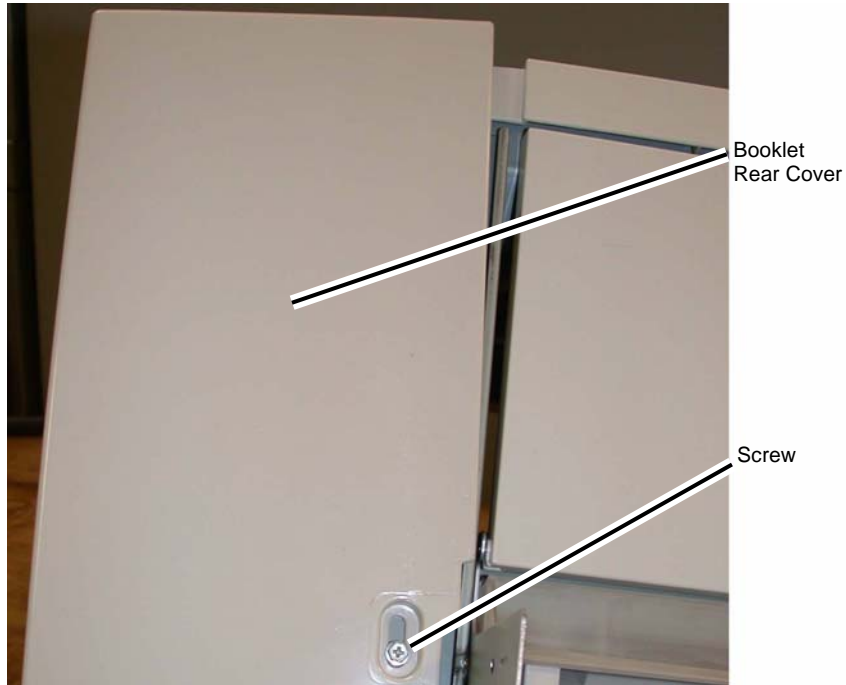

Figure 2 Removing the Booklet Rear Cover
- c. Remove the Screw (1) (Figure 2).